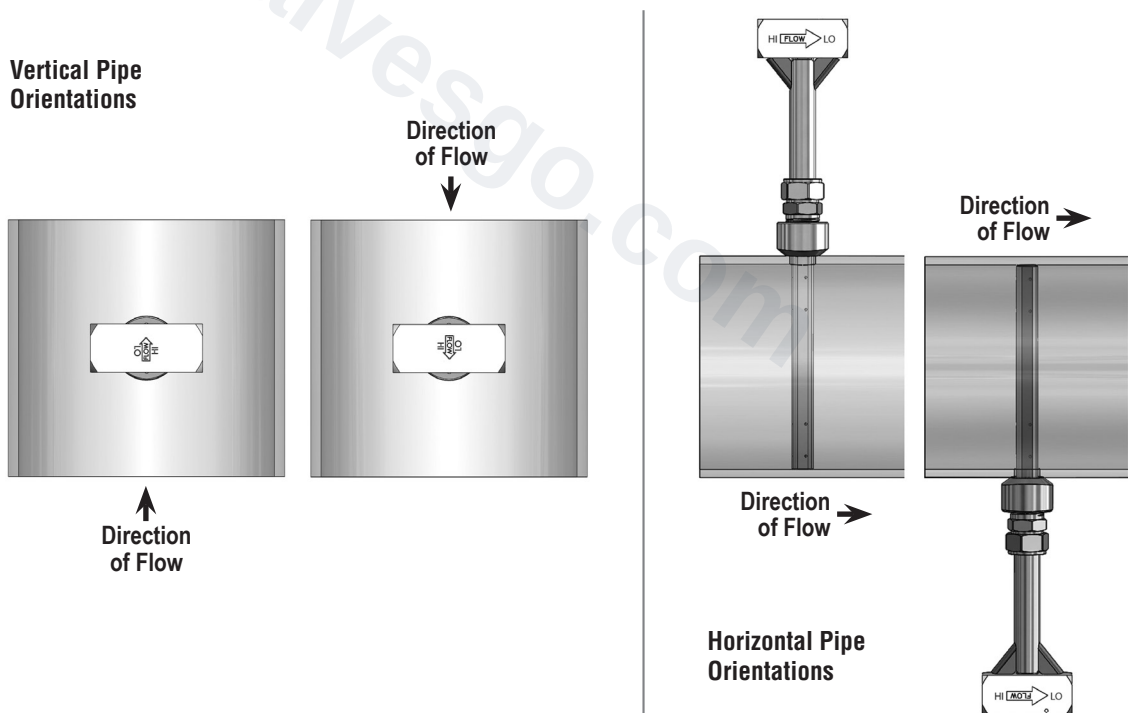

Figure 4. Orientation of Flow Arrow
- Align the head of the sensor so that the arrow labeled “flow” on the head is in the direction of the flow in the pipe to within 3° (Figure 4). Maintain the head in this position for the remainder of the installation.